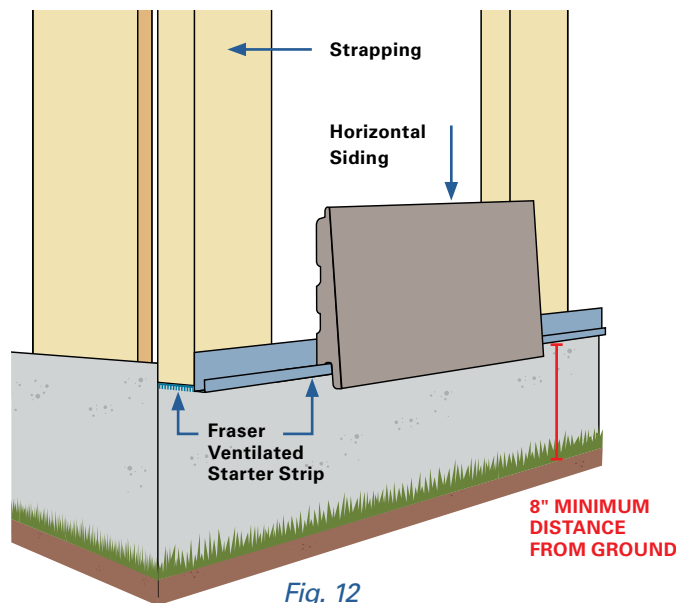

Fig. 12
- Wood siding must be installed a minimum of 8" above the ground to protect from wet soil, rain and moisture. (See Figure 12)